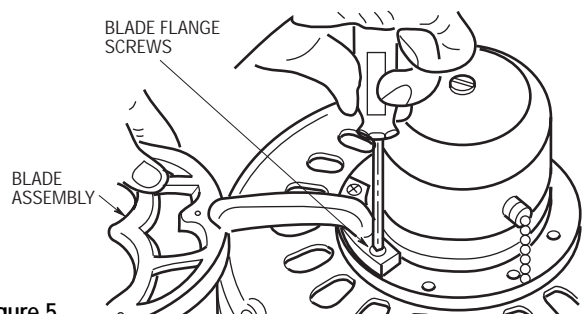

Figure 5
- 10. Attach blade assembly to motor hub using two Phillips oval head flange screws assembled in flange. Make sure the screws are tightened securely (Figure 5). Repeat this procedure for other four blade assemblies.